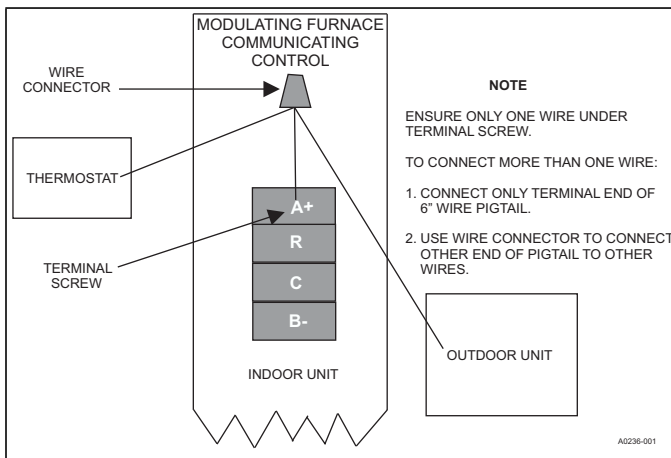

FIGURE 16: Terminal Screw Wire Connection
**IMPORTANT:** Do not place more than one wire under any single communication terminal screw (there are four communication terminal screws). If more than one wire must be connected, attach only the terminal end of a one wire pigtail no longer than 6", and use a wire connector to connect the other end of the pigtail to the other wires. Failure to do this will result in nuisance communication error faults. See Figure 16.
**IMPORTANT:** Do not place more than one wire under any single communication terminal screw (there are four communication terminal screws). If more than one wire must be connected to a terminal screw, attach only the terminal end of a one wire pigtail no longer than 6”, and use a wire connector to connect the other end of the pigtail to the other wires. Failure to do this will result in nuisance communication error faults. See Figure 16.